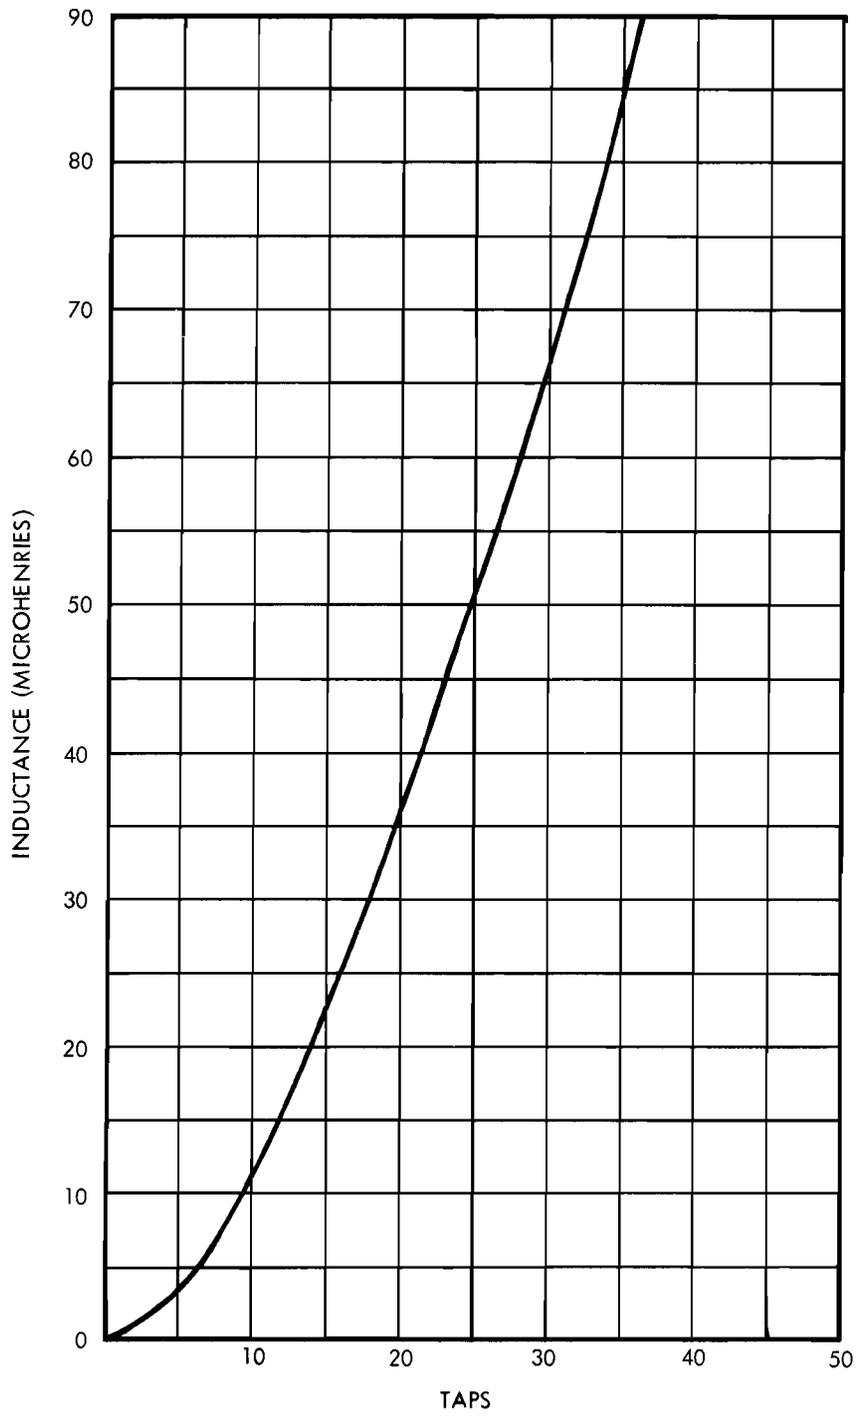

Figure 4-17. Tap-versus-Inductance Chart
h. Determine the coil tap to be used from the tap-versus-inductance chart (Figure 4-17). This tap number will be the maximum inductance value required. If all 10 channels are programmed to the coil the resultant stray inductance may move the tap as much as three turns lower.
- g. Refer to Figure 4-17 and find that 8.64 μ h is tap No. 8. Always use the next lowest tap because of lead inductance being added to the total. Connect the Channel-4 wire (yellow) to that tap.